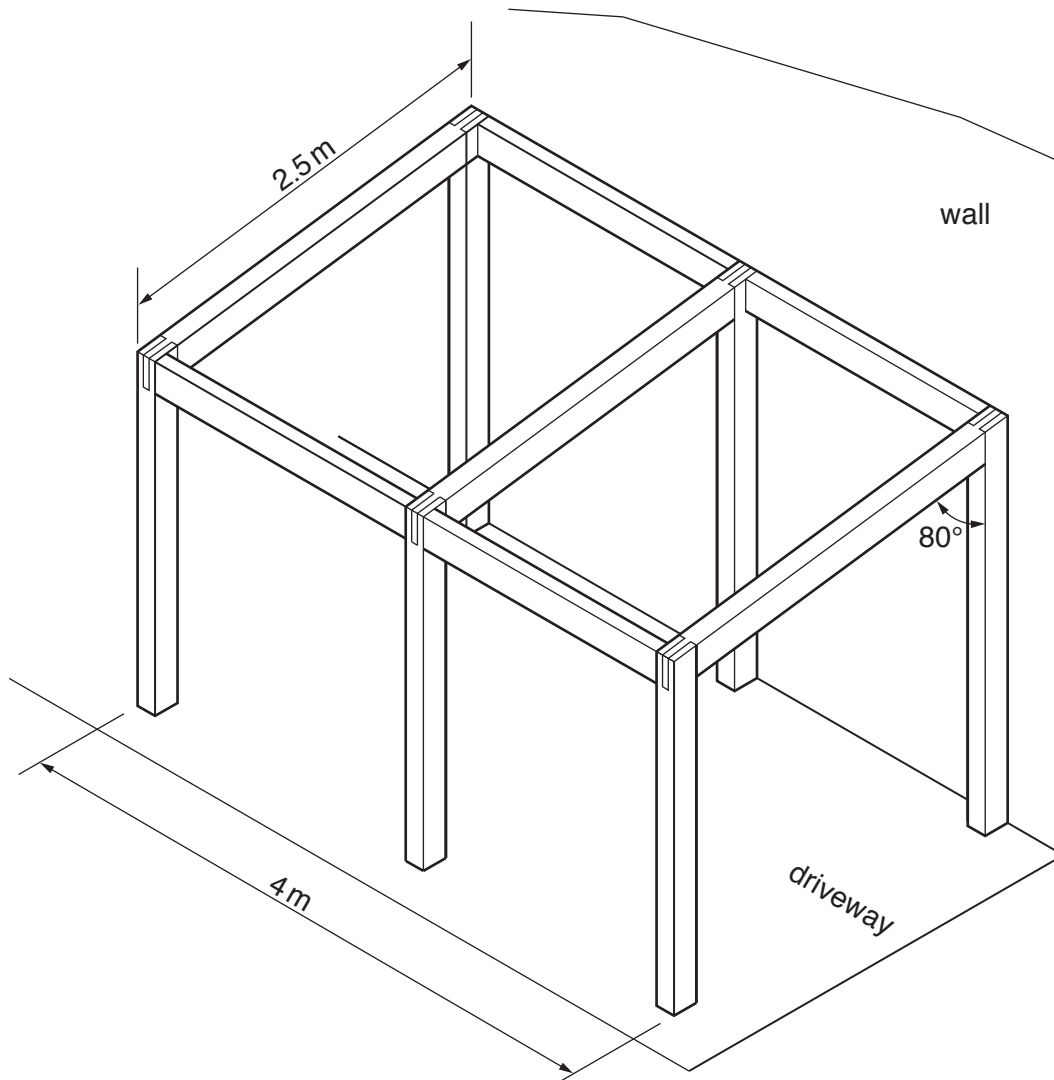

Fig. 6
- (iii) Fig. 6 shows a frame for a carport. The roof is to be covered using six uncut corrugated plastic sheets  $2600\text{ mm} \times 800\text{ mm}$ .
Draw on Fig. 6 to show **two** of the corrugated plastic sheets correctly positioned on the roof frame. [2]